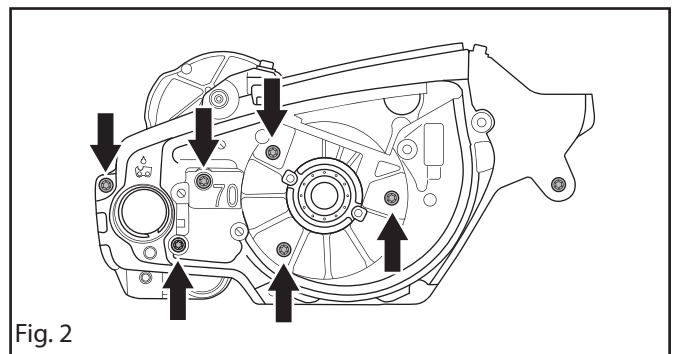

Fig. 2
3. Remove the six screws on the flywheel side. See figure 2.